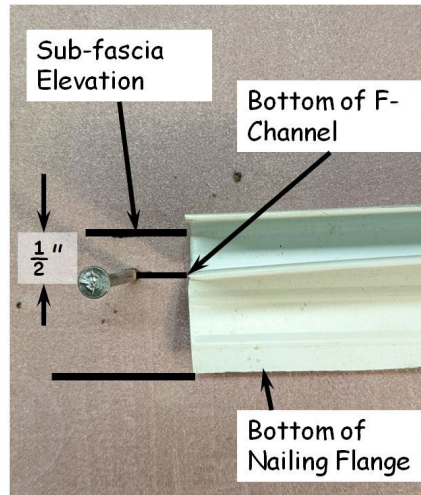

Figure 11-2. F-Channel Location.
- a. Carefully measure the height of the F-channel. Measure down from the top mark the overall height of the F-channel, and make a mark. This will be the **bottom of the F-channel nailing flange** (see Figure 11-2).
- b. Each course of siding is 8" tall. The typical house requires $12\frac{3}{4}$ courses. The $\frac{3}{4}$ course at the top is planned so that there is approximately $2\frac{1}{2}$ " above the center butt to insert into the top undersill trim. This results in the top course being $\sim 6\frac{1}{2}$ " tall. The overall height of the siding is then $102\frac{1}{2}$ " ($12 \times 8 = 96 + 6\frac{1}{2} = 102\frac{1}{2}$ ". The bottom of the siding is thus nominally $102\frac{1}{2}$ " below the bottom of the F-channel, or the nail in Figure 11-2 above.